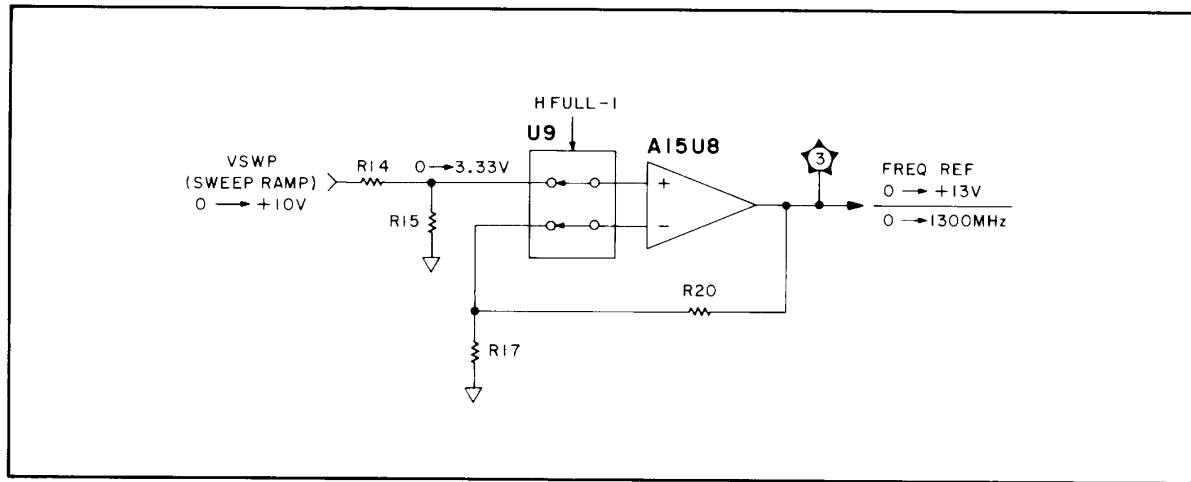

Figure 8-19. Frequency Reference Circuit in Full 4 – 1300 Mode, Simplified Schematic
**FULL 4 - 1300 Mode.** In FULL 4-1300 mode, the VSWP sweep ramp is amplified by 1.3 to generate the 0V to +13V FREQ REF signal. A simplified schematic of the Frequency Reference circuit for the FULL 4-1300 mode is shown in Figure 8-19.